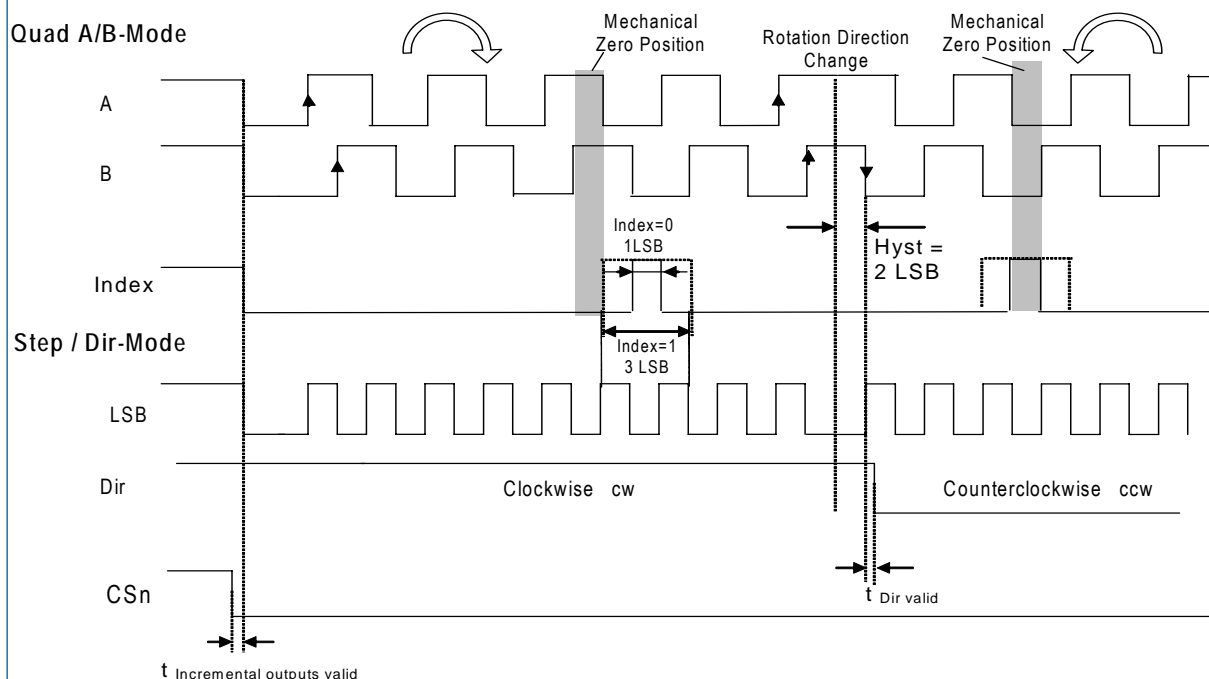

Figure 8: Incremental output modes
Figure 8 shows the two-channel quadrature as well as the step / direction incremental signal (LSB) and the direction bit in clockwise (CW) and counter-clockwise (CCW) direction.